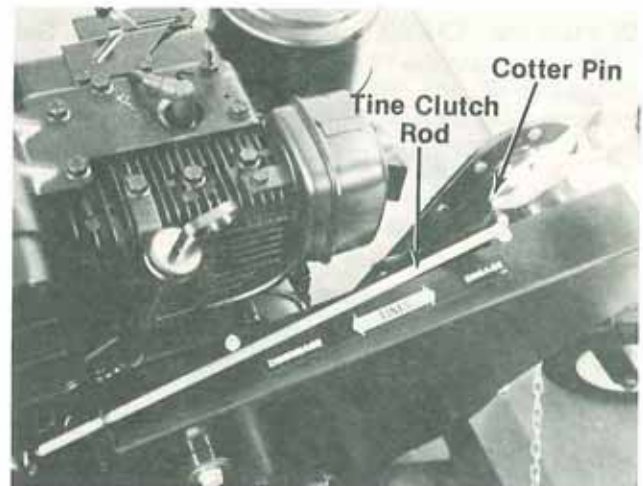

FIGURE 21.
1. Remove the tine clutch rod by removing the cotter pin in the hooked end of rod. See figure 21.